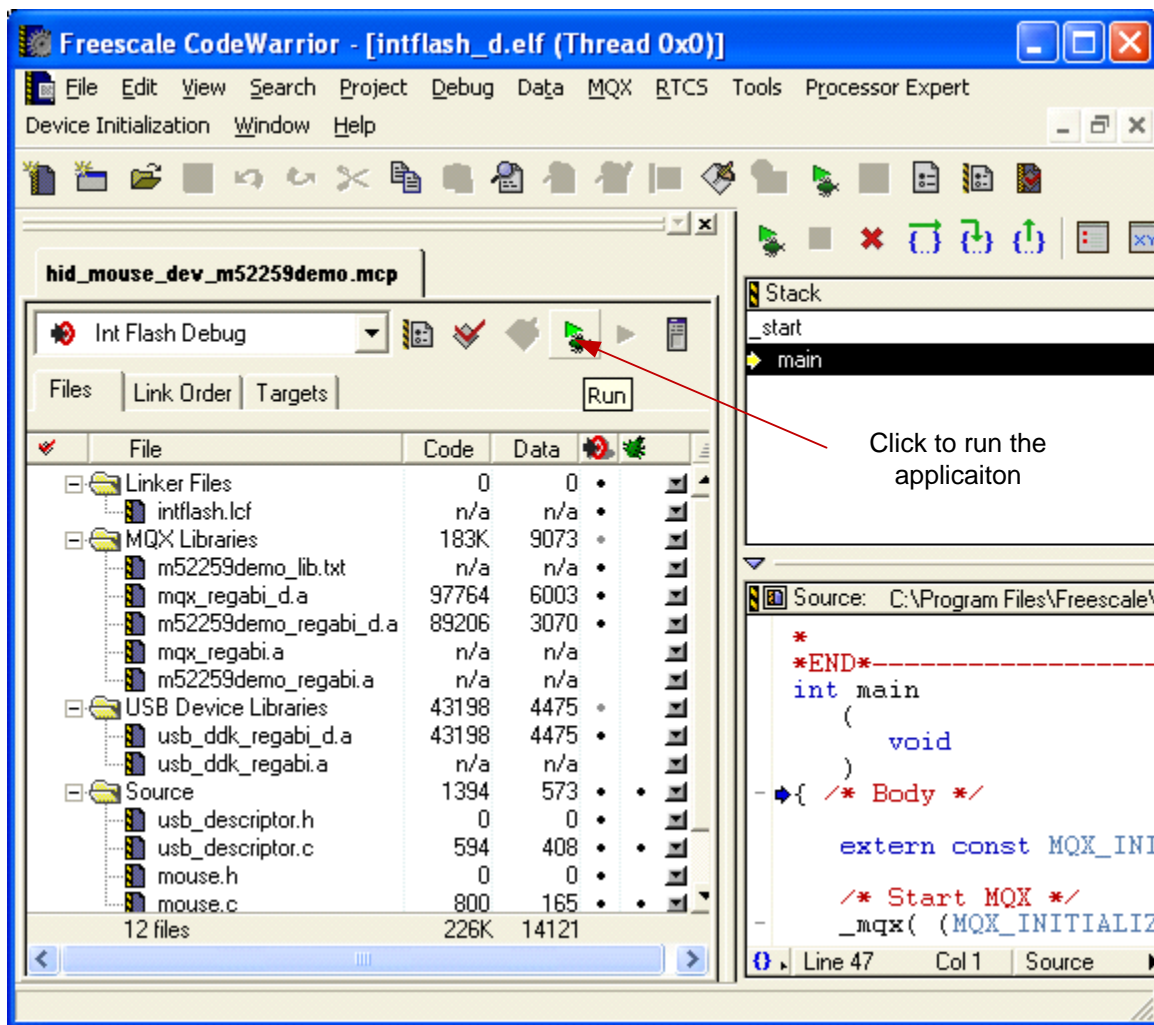

Figure A-8. Debugging the application on CW7.2
6. After the image is programmed in the flash, the debugger window as shown in Figure A-8 appears.